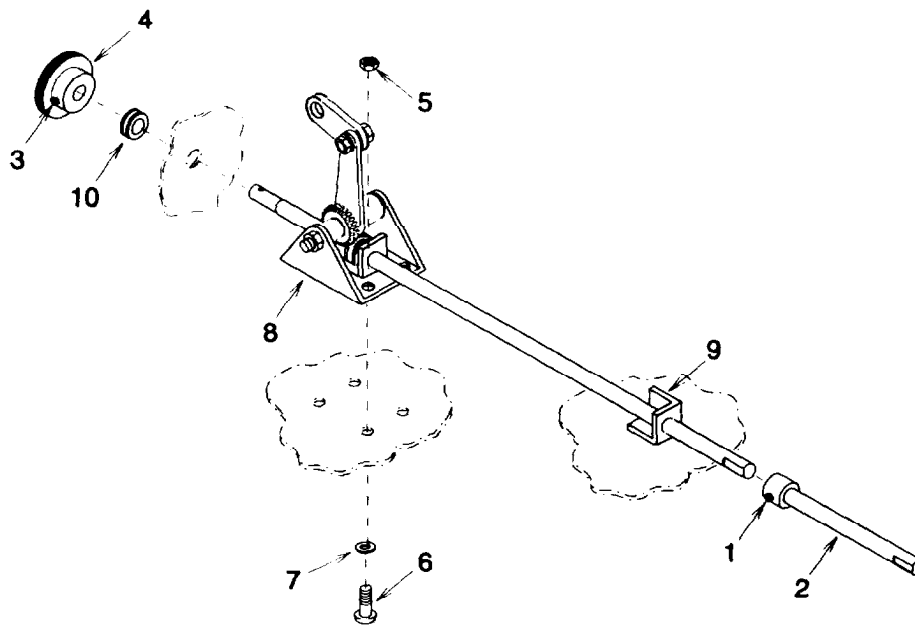
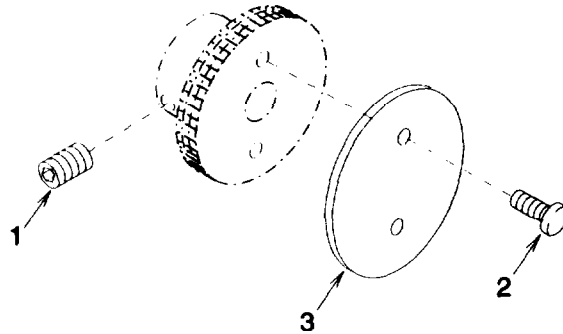

Figure 3-24 Rod, Arm, and Worm Gear
Figure 3-26. Knob Assembly
- 1 Loosen setscrew (1) Figure 3-24 and remove extension rod (2).
- 2 Loosen setscrew (3) and remove knob (4).
- 3 Remove four self locking nuts (5), screws (6), and flat washers (7). Discard self locking nuts.
- 4 Working through the fresh air damper panel opening, push the rod, arm and worm gear assembly (8) into the air conditioner, then raise and pull it out of bracket (9) and through the fresh air damper panel opening.
- 5 Remove grommet (10).
- (a) Remove setscrew (1) Figure 3-26.
- (b) Remove two drive screws (2) and information plate (3). Discard drive screws.
- (a) Install information plate (3) Figure 3-26 and two new drive screws (2).
- (b) Install setscrew (1).
*e. Installation*(1) Rod, Arm, and Worm Gear.(a) Install Rod, Arm, and Worm Gear.
- 1 Install grommet (10) Figure 3-24.
- 2 Install the rod, arm, and worm gear assembly (8) through the fresh air damper panel opening and insert the rod into the bracket (9) hole. Lower the rod, arm, and worm gear assembly and insert the rod through the grommet (10).
- 3 Align rod, arm, and worm gear assembly (8) mounting holes and install four screws (6), flat washers (7), and new self locking nuts (5).
- 4 Install knob (4) and tighten setscrew (3).
- 5 Install extension rod (2) and tighten setscrew (1).